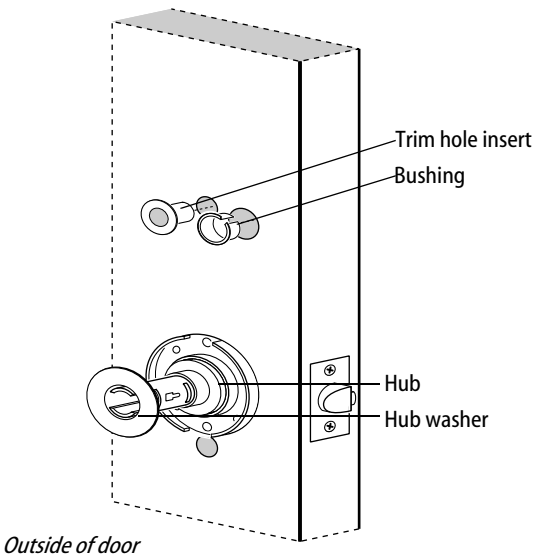

Figure 10 Installing the outside trim hole insert, bushing, and hub washer
- 1 On the outside of the door, insert the trim hole insert into the upper trim hole, as shown in Figure 10.